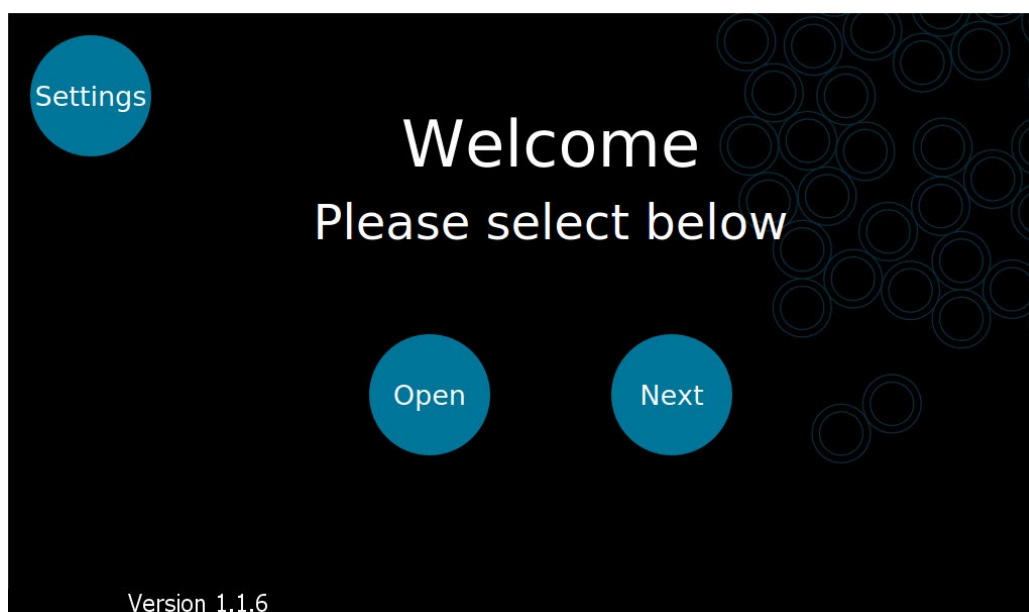

Fig. 3.4. The Xdrop™ instrument "Welcome" screen, press "open" to eject the drawer.
11. Push "Open" on the instrument touch screen to eject the drawer (Fig. 3.4).